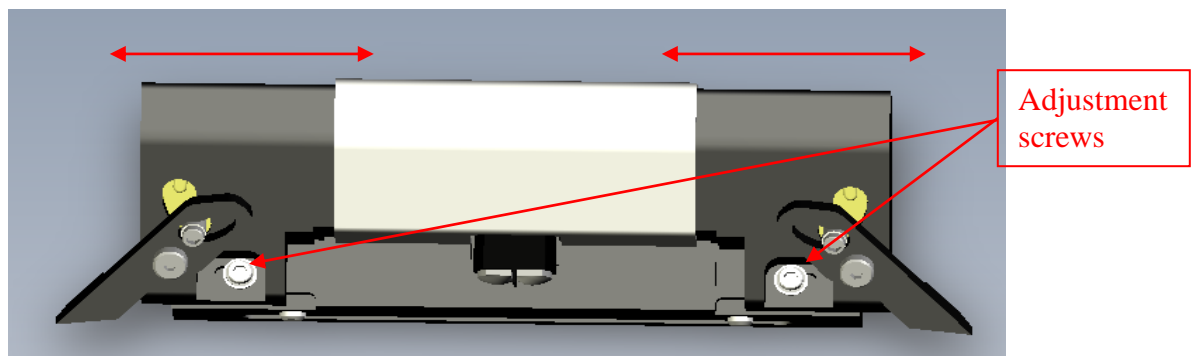

Figure 8
- Adjustments may be needed depending on the size and type of plates used. Place a plate on the track in front of the StopLink sensor to activate the fingers. Loosen the 2 hex screws on the StopLink (Figure 8) and adjust the width of the sides so the plate is secure between the fingers without any movement.